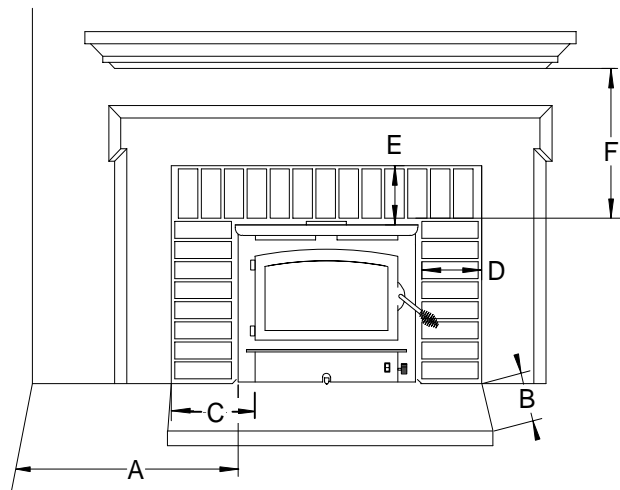

Figure 1
1. The hearth must be of masonry construction and must extend a minimum of 16" in front of firebox opening and a minimum of 8" to either side of the firebox opening. (See Figure 1).